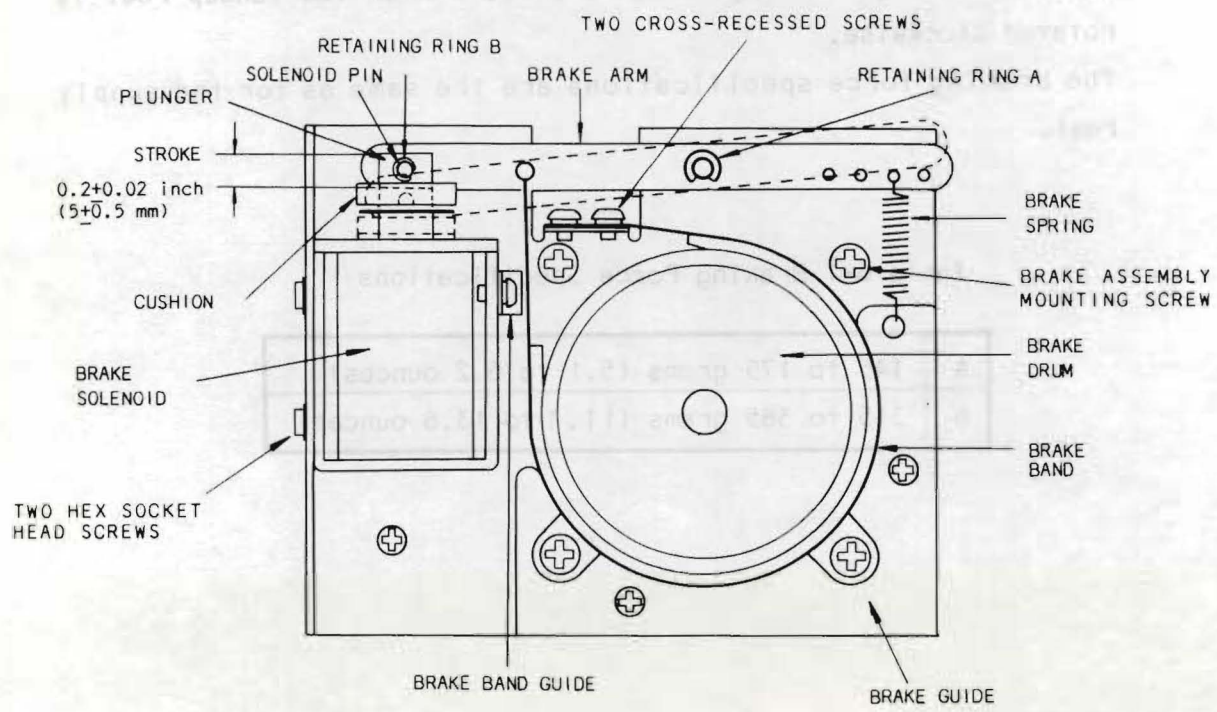

Figure 6-3 Brake Assembly Location
7. If the readings were low in both directions, remove the brake spring (shown in Figure 6-3) from the existing anchor hole on the brake lever and install the spring in the next hole located farther away from the brake solenoid.